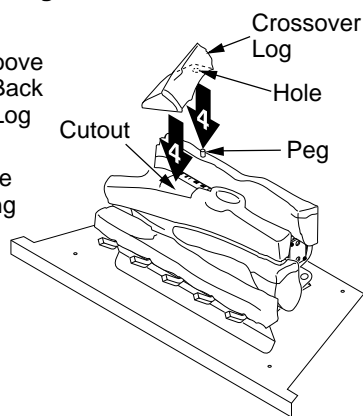

Figure 27 - Installing Crossover Log
4. Place the crossover log on the rear log and the middle log. Make sure the peg on the rear log is in the hole in the bottom of the crossover log. The crossover log should fit in the cutout of the middle log (see Figure 27).